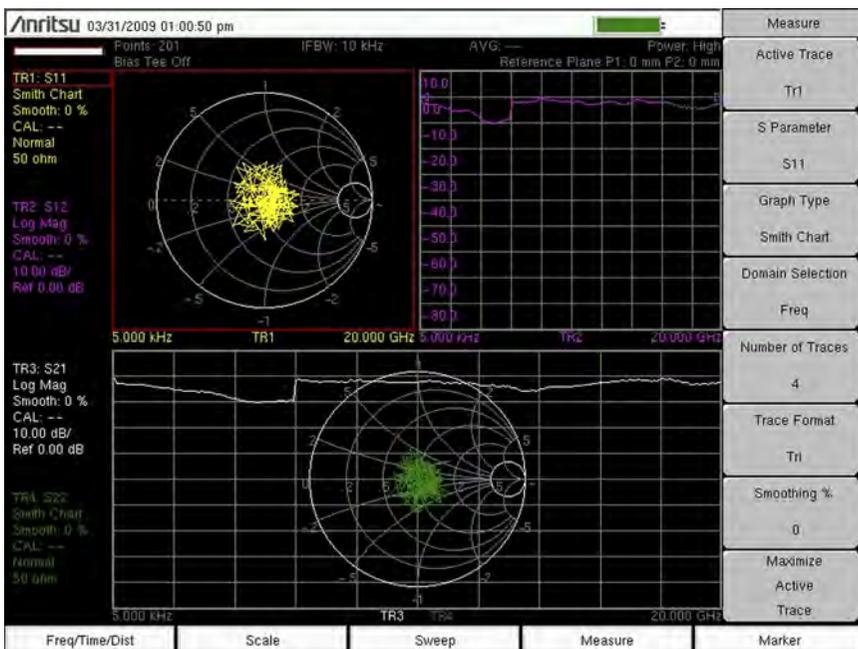

Figure 3-4. Format = Tri, Traces = 4
4. Next change Trace Format to Tri. Note how the 4 traces are assigned on this display. TR3 and TR4 are now overlaid in the bottom half of the display area. Refer to Figure 3-4 on page 3-5.